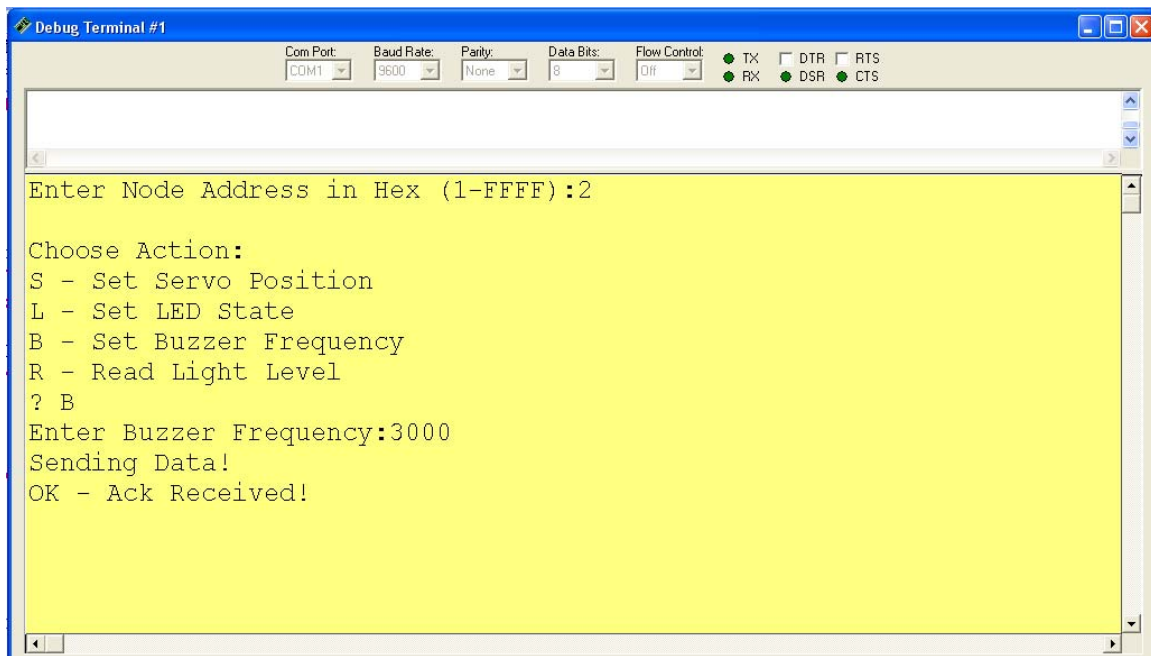

Figure 5-6: Manual Polling Debug Terminal
- ✓ Using the Debug Terminal's transmit pane, answer requested information using both the used (as shown in Figure 5-6) and unused remote addresses and monitor the remote's actions and responses.